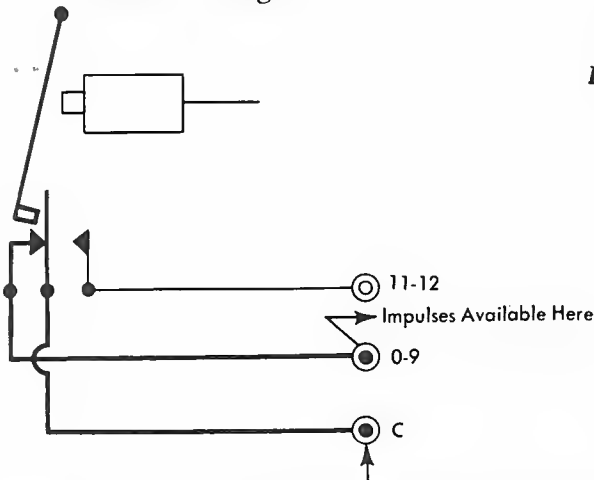

Figure 7.
Now refer to Figure 7.
3. After the 11 zone has been read, the magnet will be de-energized and the X-Eliminator circuit will appear as Figure 7.